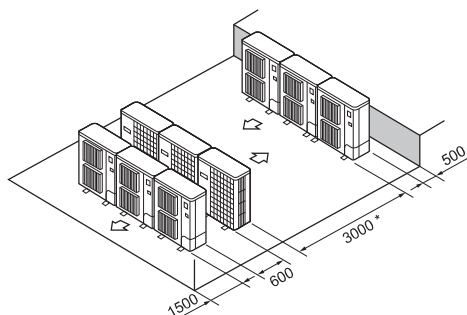

Fig. 2-18
- ⑥ Multiple parallel unit arrangement (Fig. 2-18)